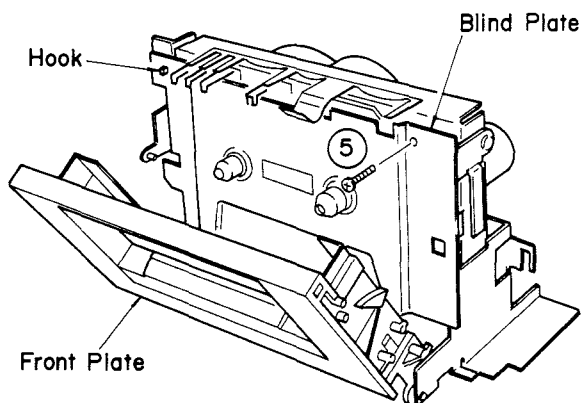

Fig. 4
- a. Remove 1 screw (5) in Fig. 4, then remove the blind plate.